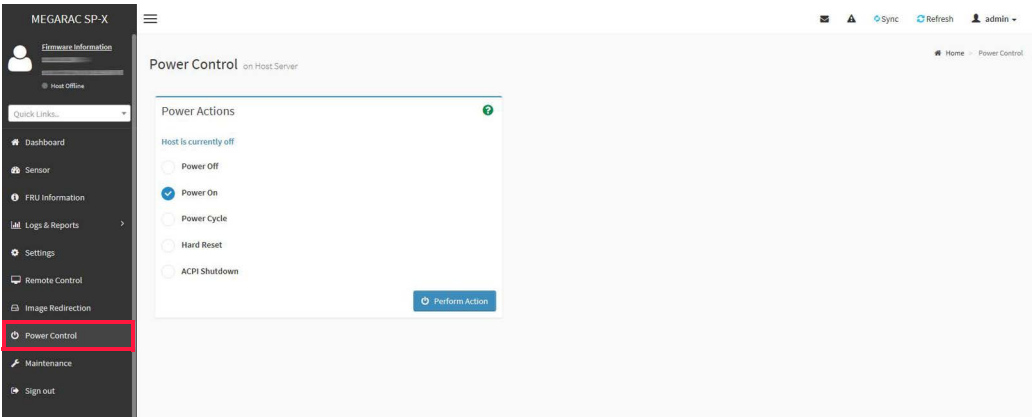

Figure 5.17 Power Control menu
11. **Power Control** enables users to control server power, but providing options to power off, power on, power cycle, hard reset, and ACPI shutdown as shown in Figure 5.17 on page 71.